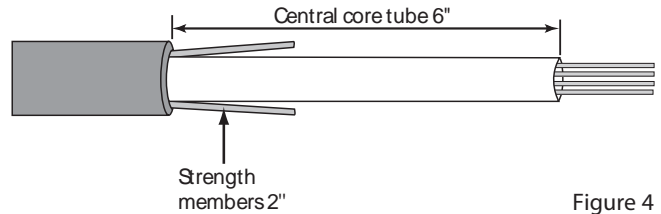

Figure 4
4. Ring cut the core tube 6" from each sheath ring cut. Split and remove core tube between ring cuts. Clean exposed fibers or ribbons with approved degreaser. (Fig. 4)